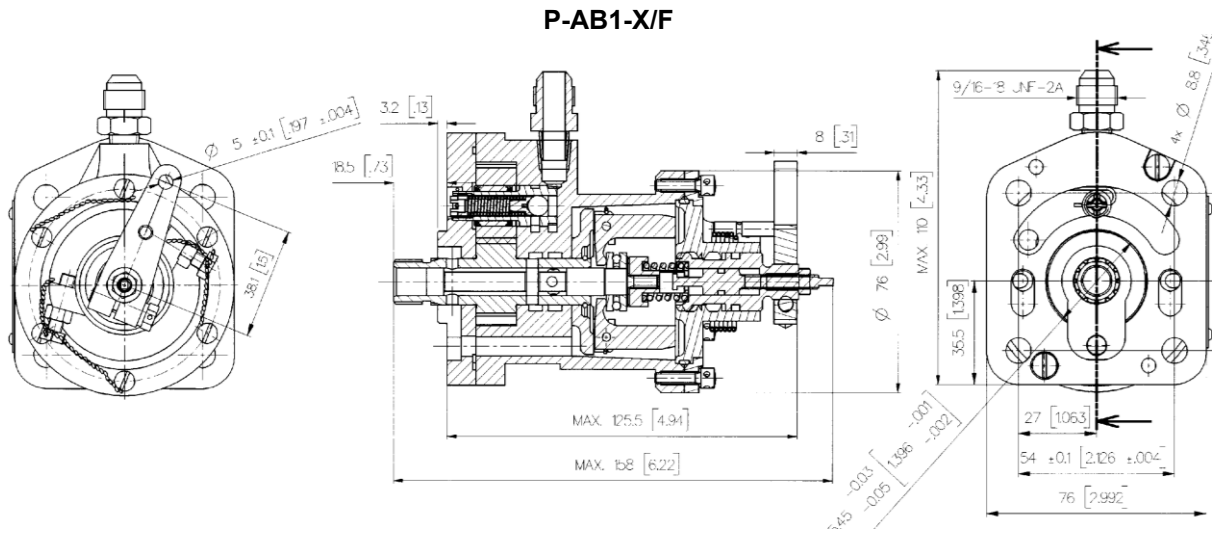

Fig. 301
*The Figure 301 is only informative of basic model without brackets and another installation hardware, concrete dimensions are specified at GAD.*